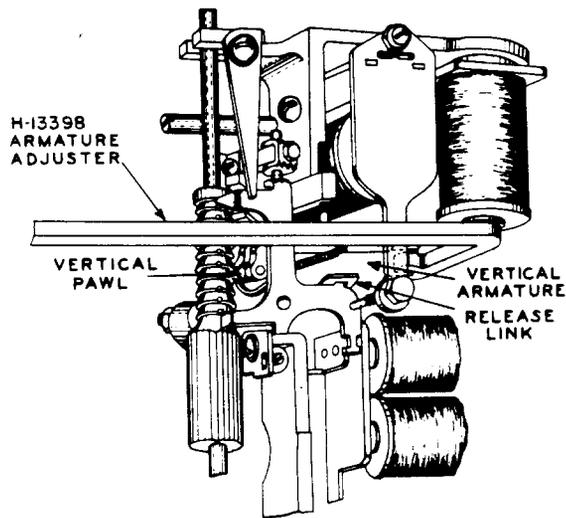

Fig. 36—Method of Adjusting Vertical Armature
(3) Place the double dog in position. Insert the bearing pin through the holes in the bearing pin clamp, the casting, and the upper and lower bearing lugs of the double dog. Adjust the bearing pin to meet requirement 3.24, covering double-dog play, and then tighten the bearing pin clamp screw securely. Place the spring in its correct location, tighten the double-dog spring mounting screw securely, and then check that the spring tension meets requirement 3.37.
**4.21 Vertical Pawl Position:** To realign the vertical pawl horizontally, adjust the vertical armature. Do this by placing the slot in the end of the H-13398 armature adjuster over the armature above and to the rear of the arm which controls the release link. Adjust the armature to the right or left as required. (See Fig. 36.)